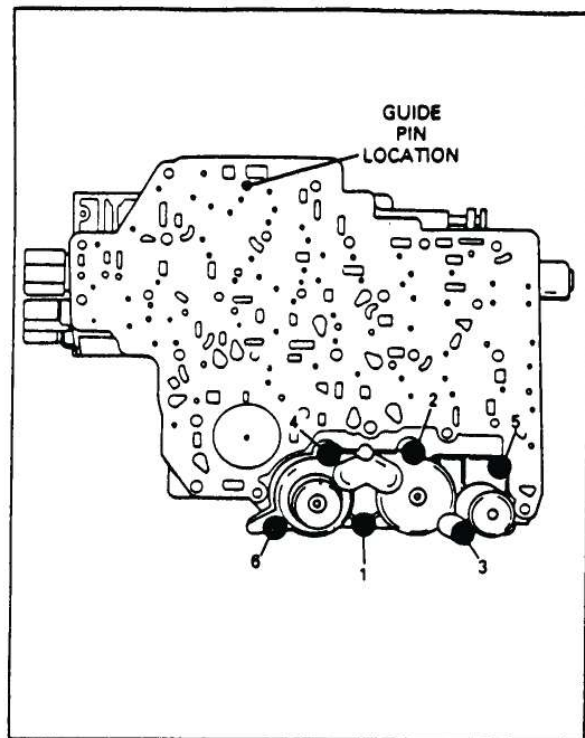

Figure 121
5. Install new accumulator to spacer plate gasket (See Figure 121).
7. Install alignment guide pin, in location shown in Figure 121.
8. Torque the accumulator housing to valve body bolts to 97 in.lbs., and use the tightening sequence shown in Figure 121.